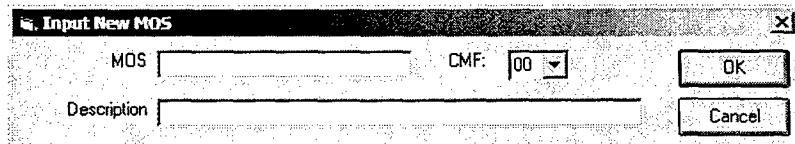

Figure 24. Add New MOS
2. All skills must include a valid MOS. Select an MOS from the MOS list by left clicking it to select it and dragging it into the highlighted MOS input box on the left. Click on the *Create New* button if the MOS does not already appear. Enter the requested information as shown in Figure 24.